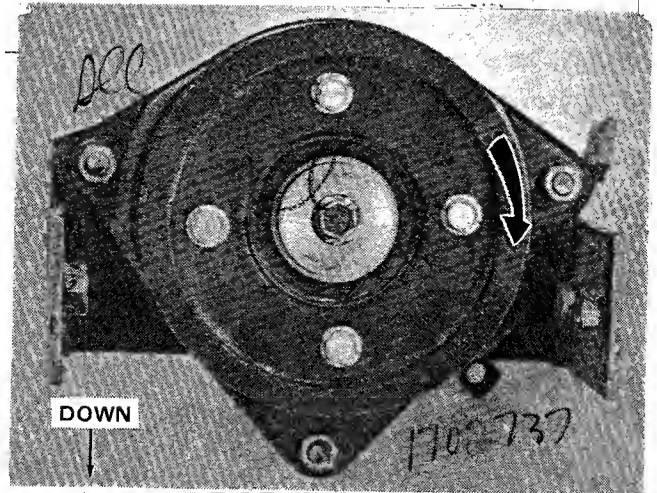

Figure 3.
7. Install the clutch assembly (figure 3) as follows. Be sure to install with side down as shown in figure 3.